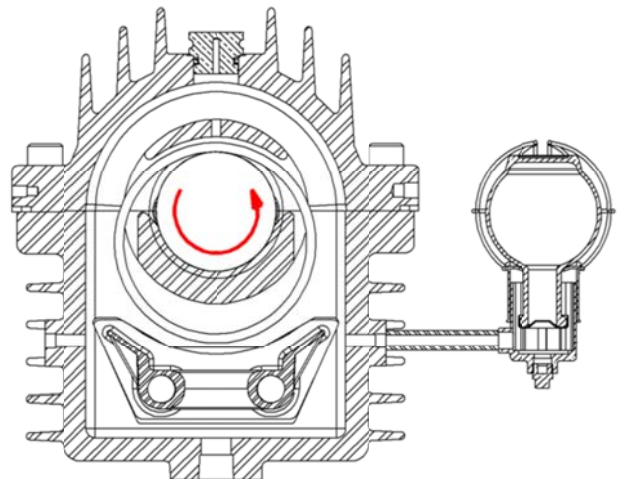

Figure 6
- 6) Check to ensure that bearing housings have been filled to the proper level of oil. Housings equipped with constant level oilers should have the oiler on the upside of the shaft rotation. See Figure 6.